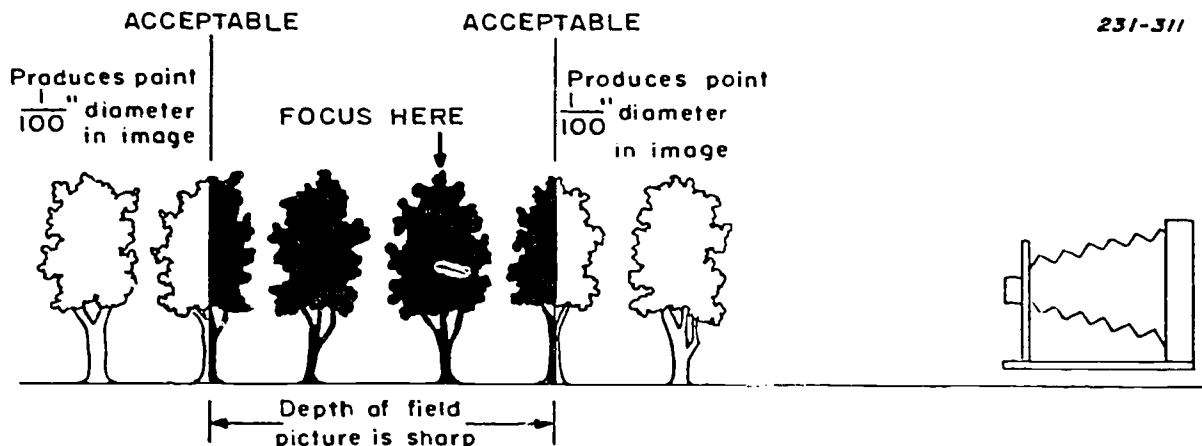

Figure 4-7. Depth of field 110
**Depth of Field.** The zone extending in front of and behind the point of sharpest focus throughout which focus is acceptable is the depth of field. Figure 4-7 graphically shows this zone of acceptable focus.